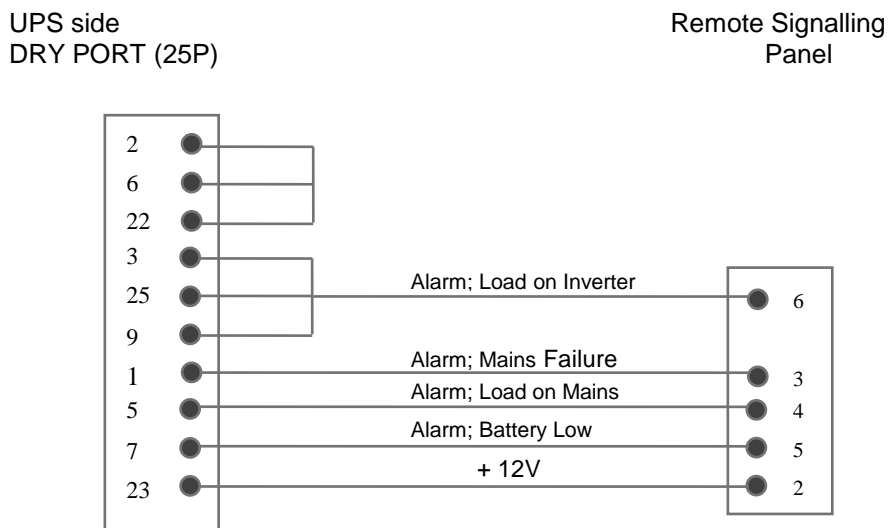

Fig. 6: Connection of Remote Signalling Panel (RSP) to UPS
- Connect one end of the cable with connector DB-25P/M on UPS DRY PORT and the other cable end with DIN 8P/M connector in Remote Signalling Panel (see Fig. 6.)